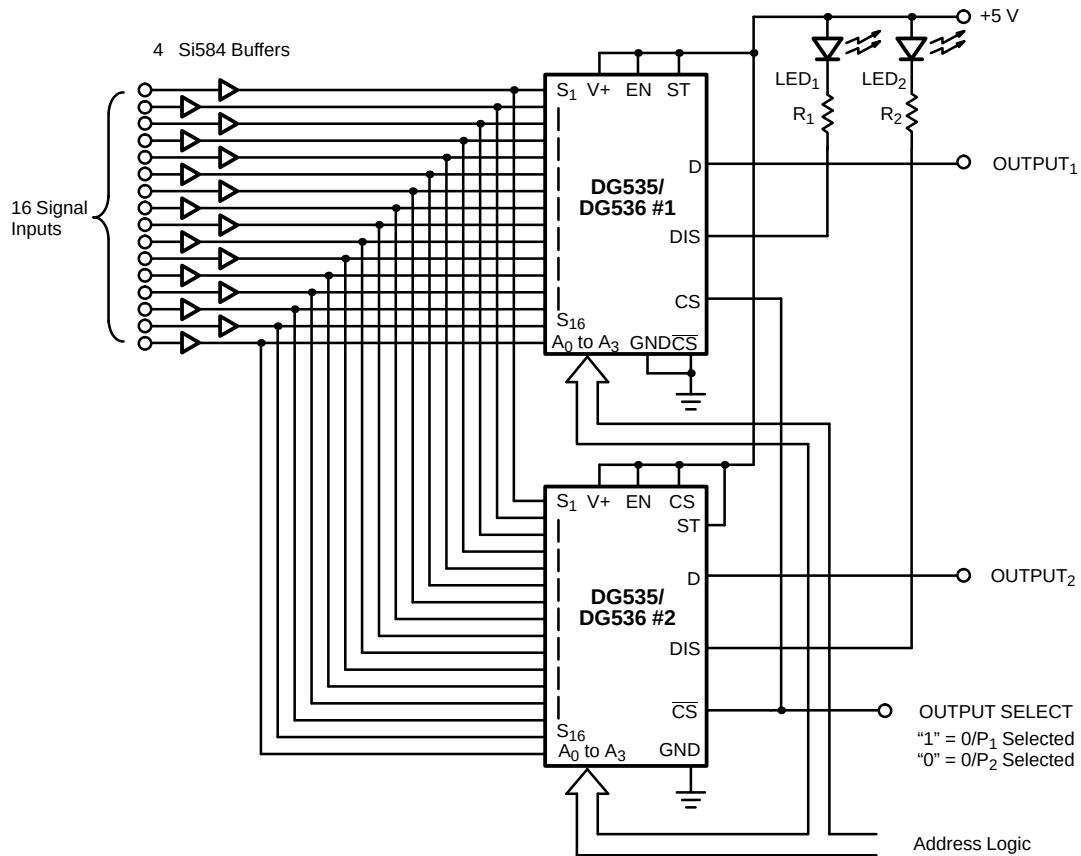
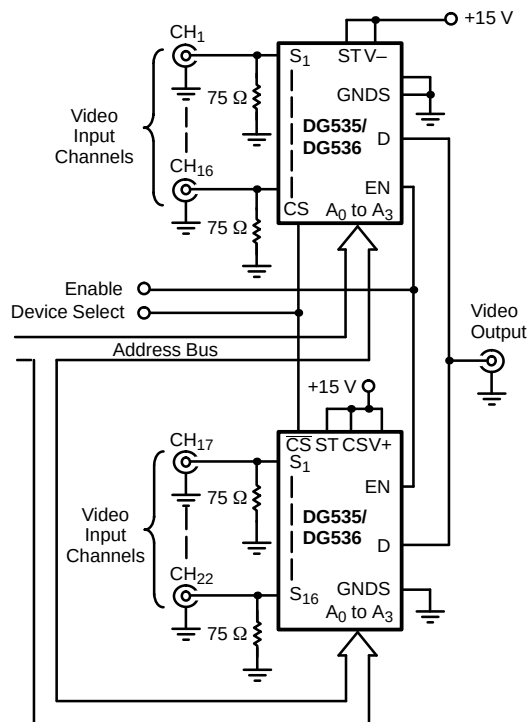
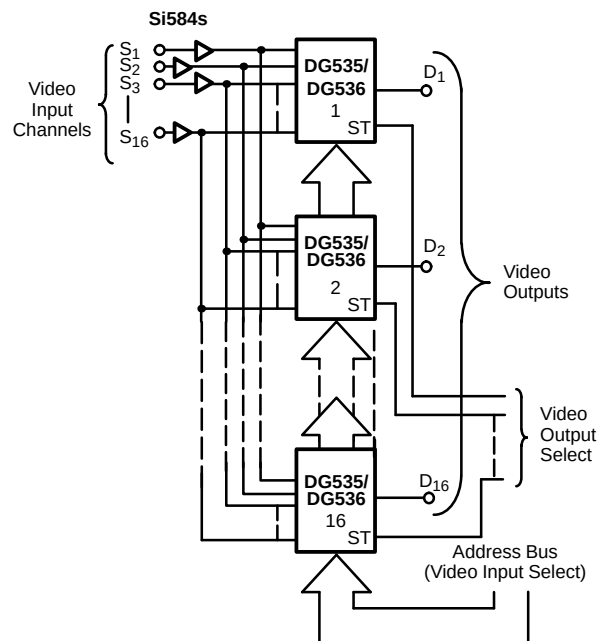

FIGURE 11. The DG535/536 as a 16 × 2 Matrix Switch
FIGURE 12. 32-Channel Multiplexer
FIGURE 13. 16 × 16 Video Crosspoint Circuit
An additional feature, a DIS pin, is an open drain terminal with the source tied to the device substrate. The DIS terminal represents a high impedance to the substrate (normally ground) when the DG535/536 is disabled and a low impedance to ground when the DG535/536 is enabled. This output can be used to indicate which device in a large matrix has been enabled (see Figure 13), or it can be used to switch off circuitry following the multiplexer stages.
Figure 11 illustrates how the DIS (disable) pin can be used to indicate which output is selected. When logic 1 is applied to output select, device 1 is enabled and device 2 is disabled. With device 1 enabled, the DIS pin is connected to signal ground, thus turning LED 1 on. With device 2 disabled (due to $\overline{CS}$ being 1), its DIS pin represents a high impedance to ground and LED 2 is off.
The circuit in Figure 11 also illustrates how the chip select inputs can be used. As shown in Figure 12, a 32-channel single-ended multiplexer can be configured without external chip select circuits. This circuit makes use of the CS and $\overline{CS}$ inputs which allow device selection from a single control line.
The basic circuit shown in Figure 11 can be extended and elaborated to give a 16 x 16 matrix for video crosspoint applications such as central routers used in video studios. This circuit, shown in Figure 13, allows source (or video input) to be connected to any video output (or any number of outputs). The strobe input (ST) on each device is used to latch the appropriate address into that particular device. By strobing the required address into each device sequentially, any crosspoint connection can be made.
The circuit shown in Figure 13 can be used as a digital cross-point to replace expensive, power consuming ECL crosspoint ICs. Besides handling raw digital data, the DG535/536 can also be used for other forms of data transmission, such as FSK and PCM systems.
RZ (returns to zero) PCM data consists of three discrete (ternary) levels to overcome long periods of zeroes (Figure 13). Digital signals can degrade beyond legibility after only a few hundred yards of travel down a transmission line. Therefore, the PCM signals must be regenerated at regular distances to avoid excessive distortion.